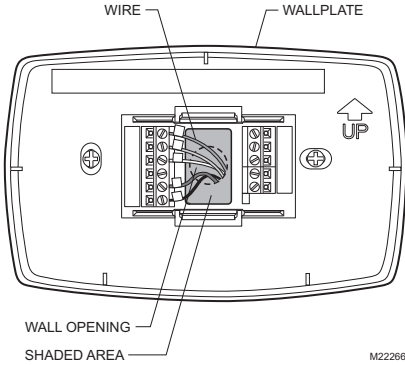

Fig. 5. Restrict wires to shaded area of wire hole.
4. Push excess wire back into the wall opening and restrict wires to the shaded area. See Fig. 5.